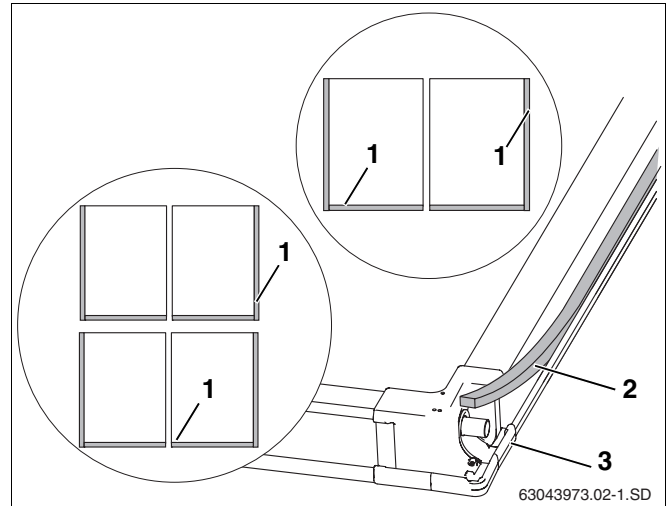

Fig. 21 Back of the collector
The connections between the side and lower facing panels and the collectors (Fig. 21, **Item 1**) must be sealed with the sealing tape.
- ▶ Insert sealing tape (Fig. 21, **Item 2**) adhesive side first into the recessed channel on the outer edges of the outer collectors and at the bottom of every collector (Fig. 21, **Item 1**) incl. the corner connector (Fig. 21, **Item 3**).